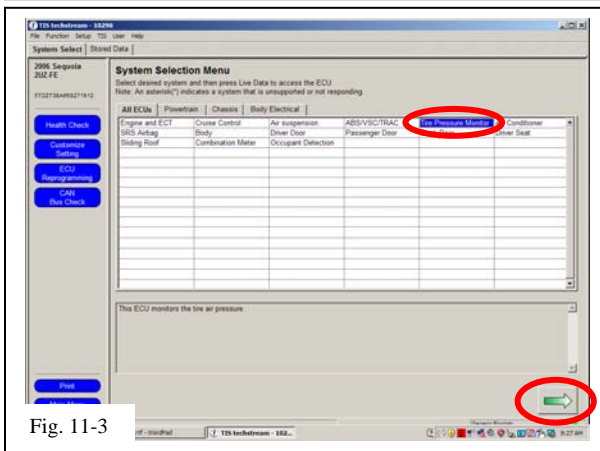

Fig. 11-3
- (f) Select “**Tire Pressure Monitor**” then click the green arrow located on the bottom right. (Fig. 11-3)